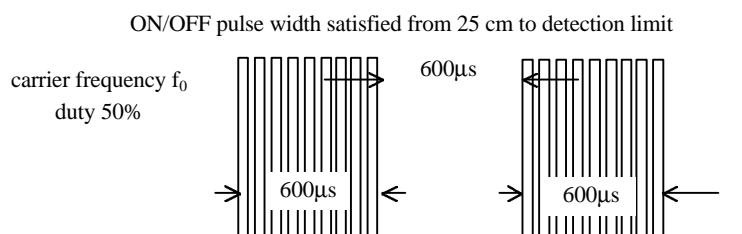

Fig 1. Burst Wave
(1) Measuring placeIndoor without extreme reflection of light.
(2) Ambient light source...Detecting surface illumination shall be 200 ± 50 Lux under ordinary hite fluorescence lamp of no high frequency lighting.
(3) Standard transmitter ...Burst wave indicated in Fig 1. of standard transmitter